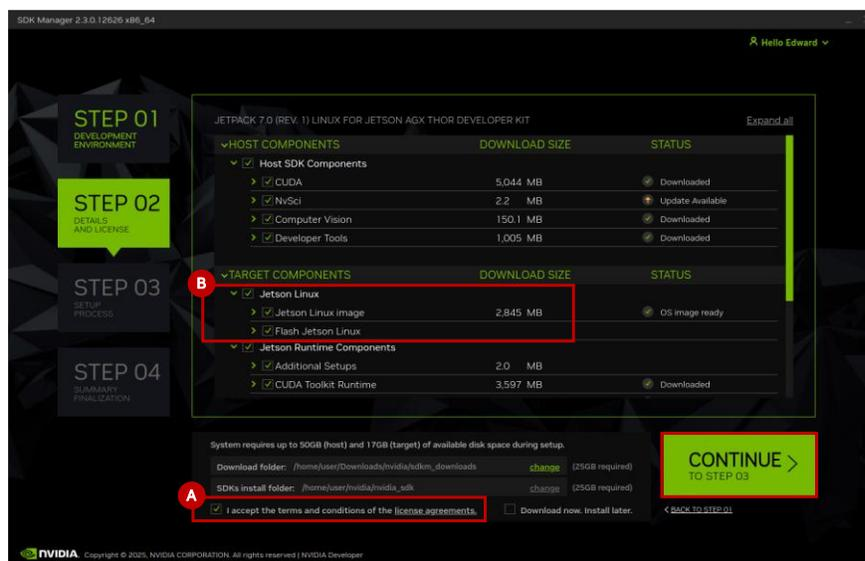

Figure 6.17. STEP 02 – Details and License
- In **STEP 02**, select **I accept the terms and conditions of the license agreements** as shown in Figure 6.17. Leave all settings under **TARGET COMPONENTS** as their default values (see letter **B**). Click **CONTINUE** to proceed with the installation process.